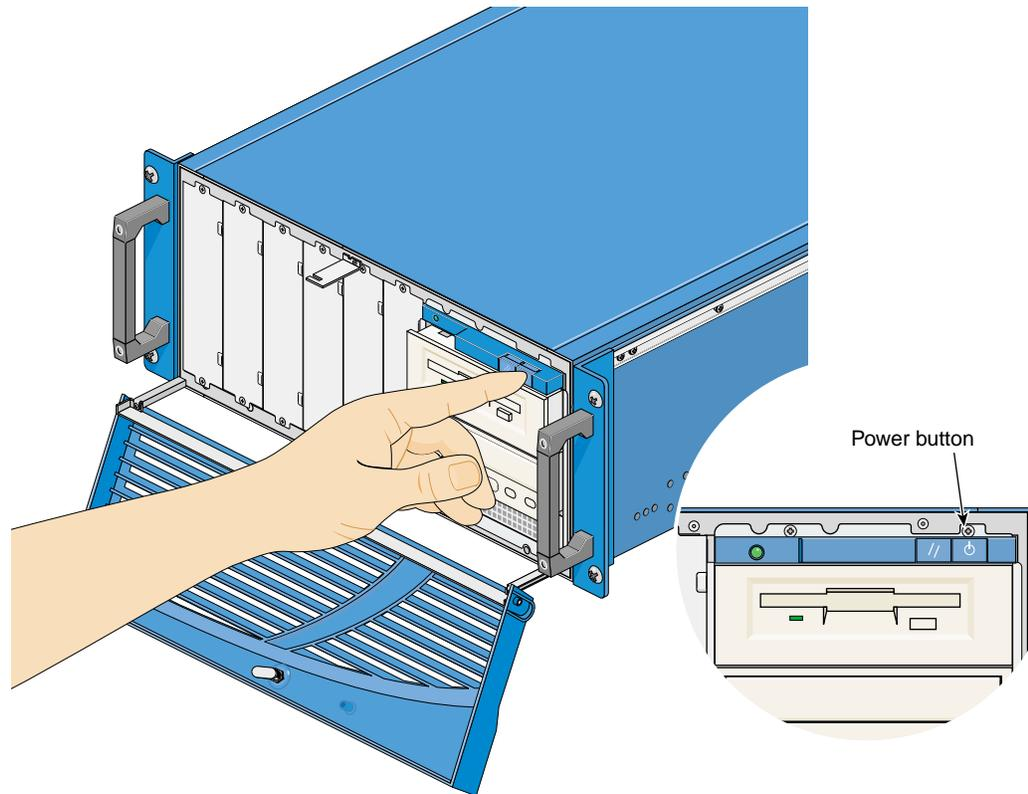

Figure 11 Node Front Panel Controls
4. Turn on the master node. The green power indicator LED on the front panel illuminates. Figure 11 shows the front controls.